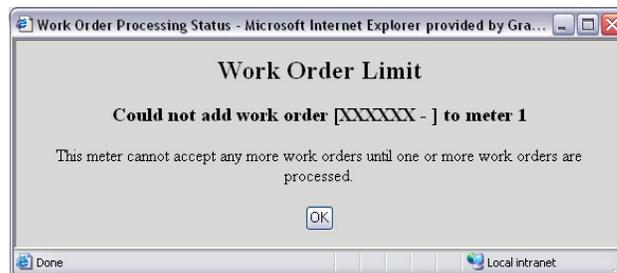

FIG. 38 Work Order Limit
1. **Work Order Limit** See FIG. 38. This message appears when the PC has five open work orders associated with the meter being addressed. No RF communication is attempted when this message appears. At least one work order will need to be processed or removed before a new one can be loaded.